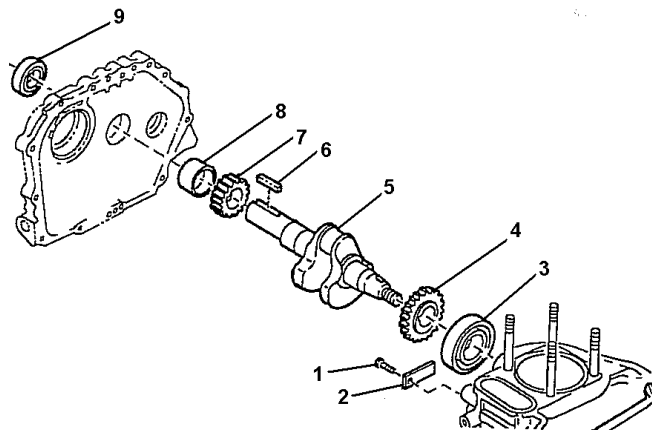

Figure 6. Crankshaft removal.
1. Remove screw (1) and retainer (2). See Figure 6.
4. Install the crankshaft with gears into the engine block and attach screw (1) and retainer (2). See Figure 6.